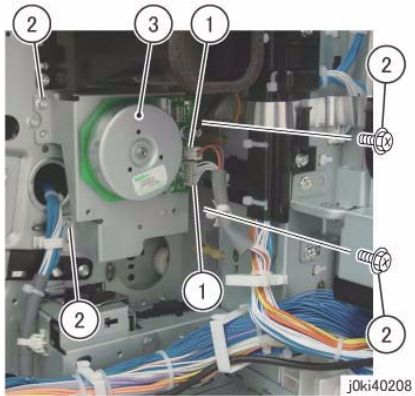

Figure 6 Remove the Main Drive Assembly
12. Remove the Main Drive Assembly. (Figure 6)